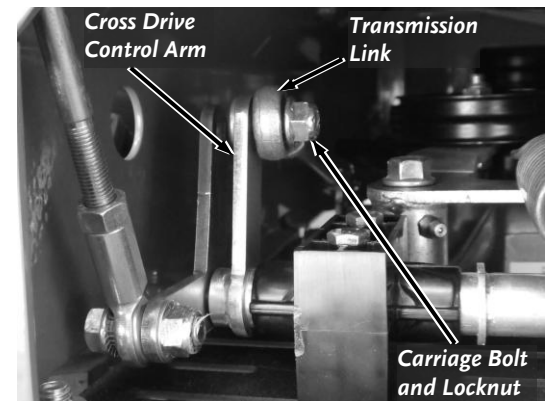

Figure 56
2. Use a 1/2" Socket to remove the Locknut and Carriage Bolt securing the Transmission Link to the right Control Arm (**Figure 56**).